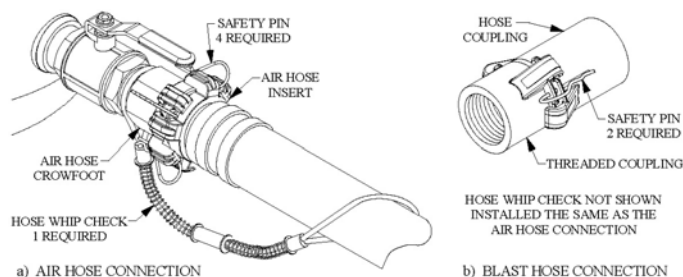

Figure 8.2 – Hose Connection Disconnect Protection
- 8.7. **Blast and Air Hoses:** All air hose, blast hose, and threaded couplings have pin holes that align when connected. To protect against accidental hose disconnections safety pins must be installed through these holes. Each hose connection must also include a hose whip check that will hold the hose if there is an accidental disconnection. Connect one loop to each side of the connection and stretch out as shown in Figure 8.2 below. Check hose connections daily and replace missing or damaged pins and whip checks.